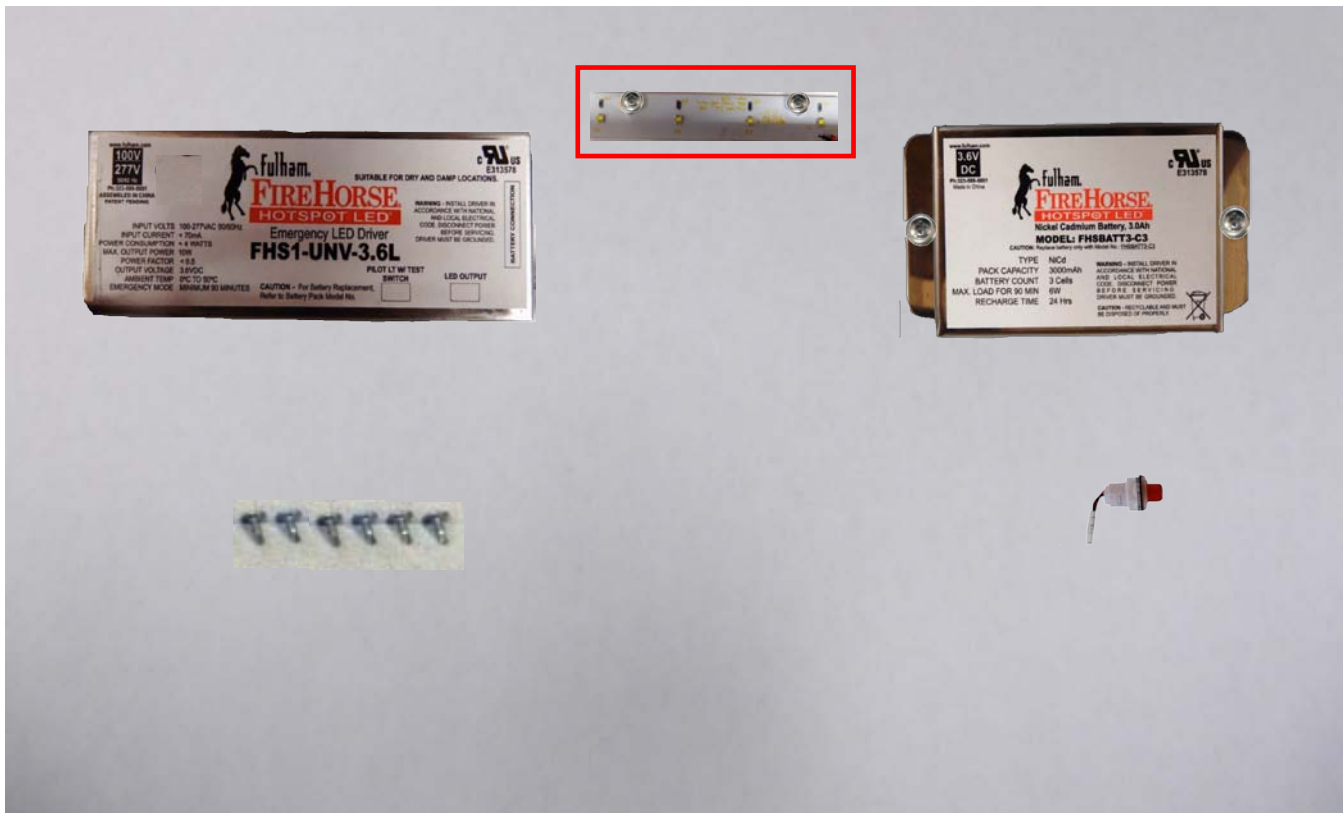

Figure 2: Hotspot LED Kit Parts
**NOTE:** Any of the two options shown in the rectangles for the LED Array can be used for this luminaire. See Figures 2 and 2a.